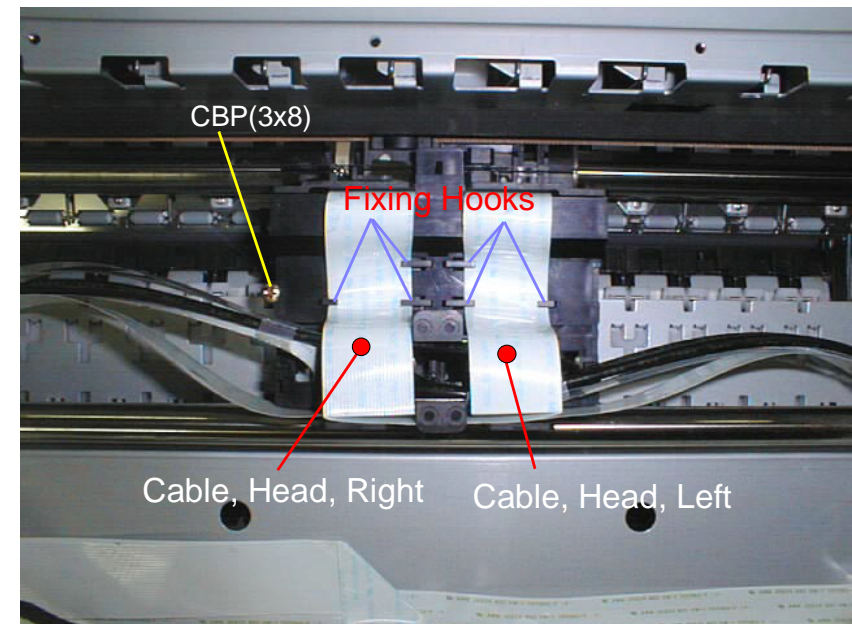

Figure 4-19. Cover, Carriage, Rear, Removal
4. Move the carriage unit to the center of the mechanism, and remove one CBP screw(3x8) securing "Cover, CR, Rear" over the carriage, and remove "Cover, CR, Rear". (Refer to Figure4-19)